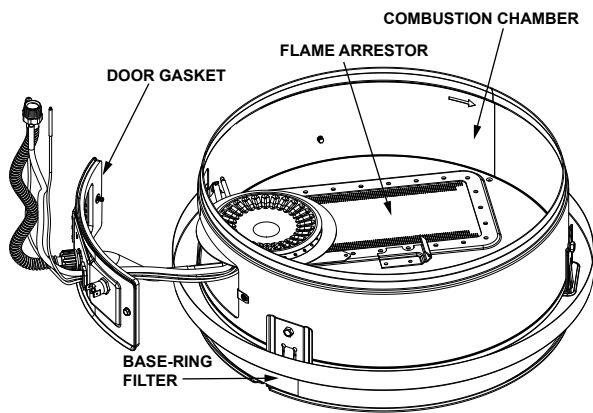

FIGURE 26.
1. Periodically check the base-ring filter (Figure 26) for any dust or debris that may have accumulated on the filter screen. NOTE: If the water heater is located in an area that is subjected to lint and dirt, it may be necessary to check the base-ring filter frequently.
2. Use a vacuum cleaner/shop vac to remove all loose debris in the combustion chamber (Figure 26). Use compressed air to clear any dust or debris that may have accumulated in the flame-arrestor.
1. Check the door gasket for damage or imbedded debris prior to installation (Figure 26).
4. Inspect the door gasket and make sure there is no fiberglass insulation between the gasket and the combustion chamber (Figure 26).